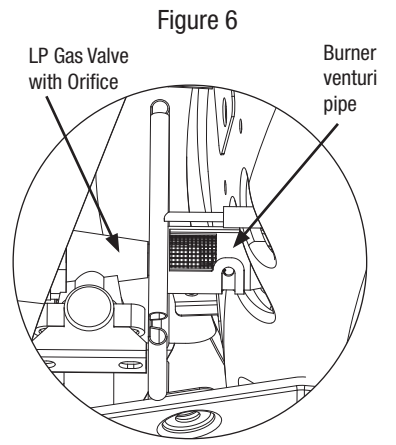

Figure 7a
9. If igniter does not light burner, use a lit match to light burner manually. Access the burner through the hole in bottom bowl as indicated. (Figures 7a and 7b)